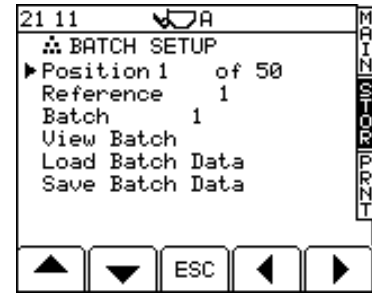

Figure 39b
1. From the STORE SETUP page with the "2 Batch (program)" line selected (fig. 26), press the ENTER key to display the BATCH SETUP page (fig. 39b).